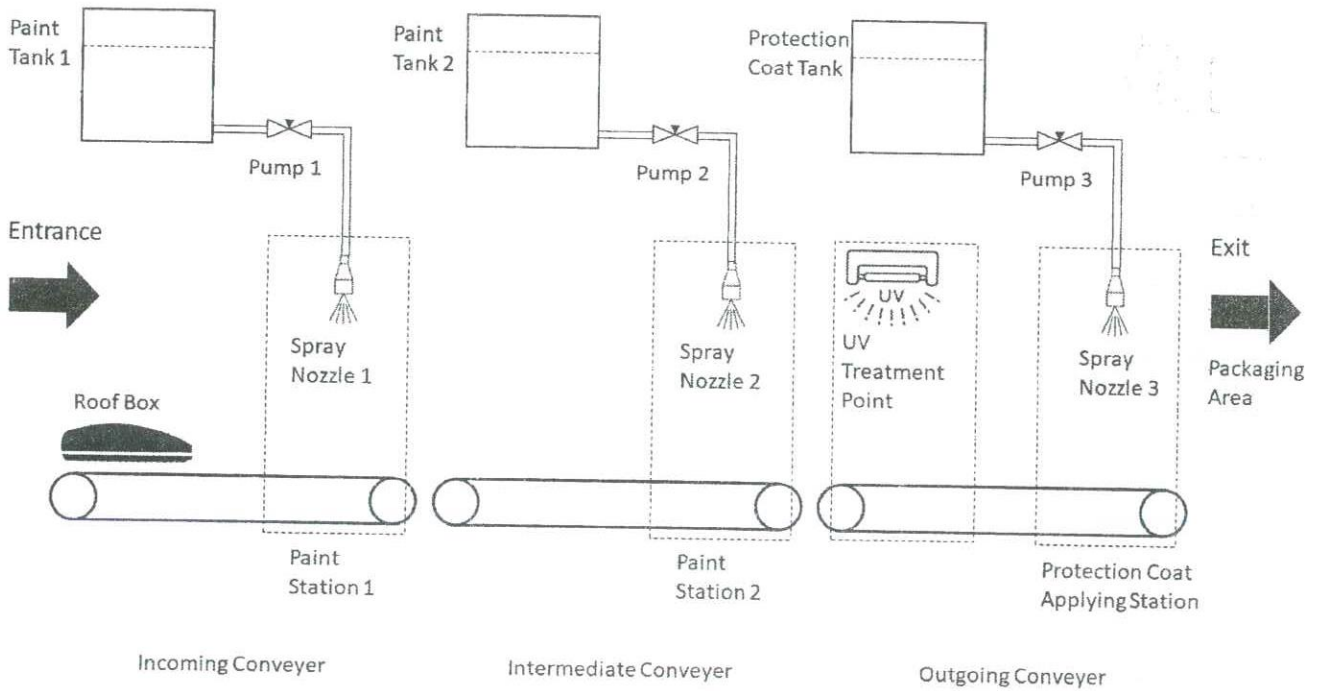

Figure Q3 - Layout of the proposed automatic painting system
Q3. An automated industrial system has been proposed for a plastic car roof box manufacturing plant to streamline the painting process. The overall system mainly consists of three (3) painting stations and a UV treatment point. The process layout of the proposed system is shown in **Figure Q3**.
- (c) Suggest suitable sensor types for each step and sketch their placement in the diagram. Mark the positions of the sensors on Figure Q3 and attach it to your answer script. [2.0 Marks]